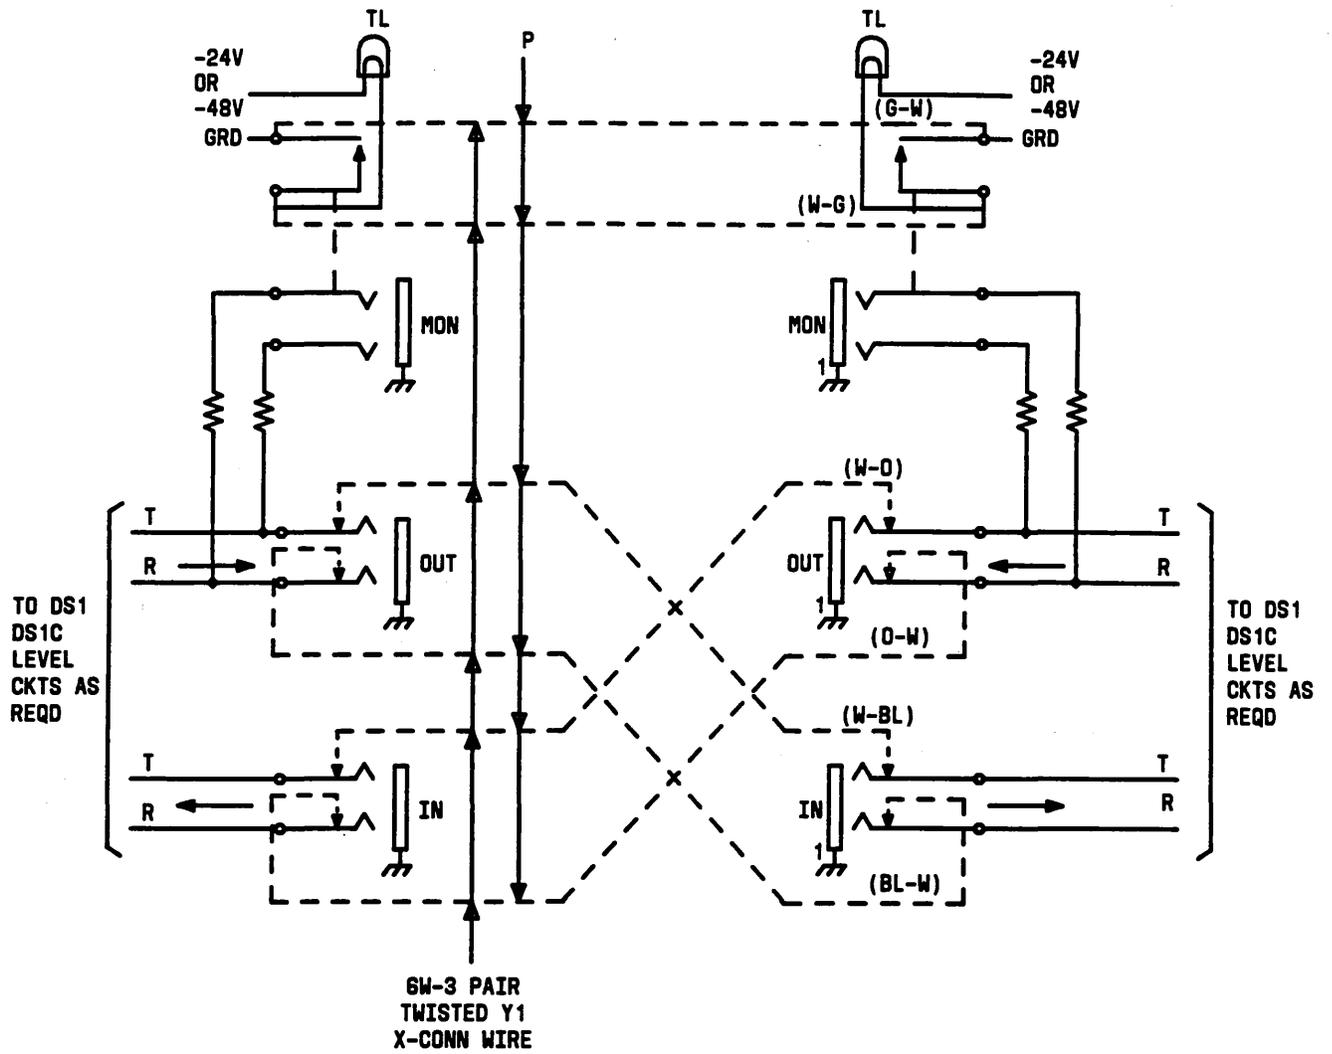

Figure 11—DSX-1 and DSX-1C Jack Circuit Schematic
4.05 The BRDG FOR NET CLK SYNC jack set connects to a reference DS1 or DS1C rate signal for timing synchronization. This type of synchronization is used for the No. 4 ESS switch, 5ESS® switch, and Digital Access and Cross-Connect Systems (DACs). Not more than two BRDG FOR NET CLK SYNC jacks should be used in an office for each of the above applications. The BRDG FOR NET CLK SYNC jack is connected between the normal cross-connect jacks (Fig. 11) as shown in Fig. 17.